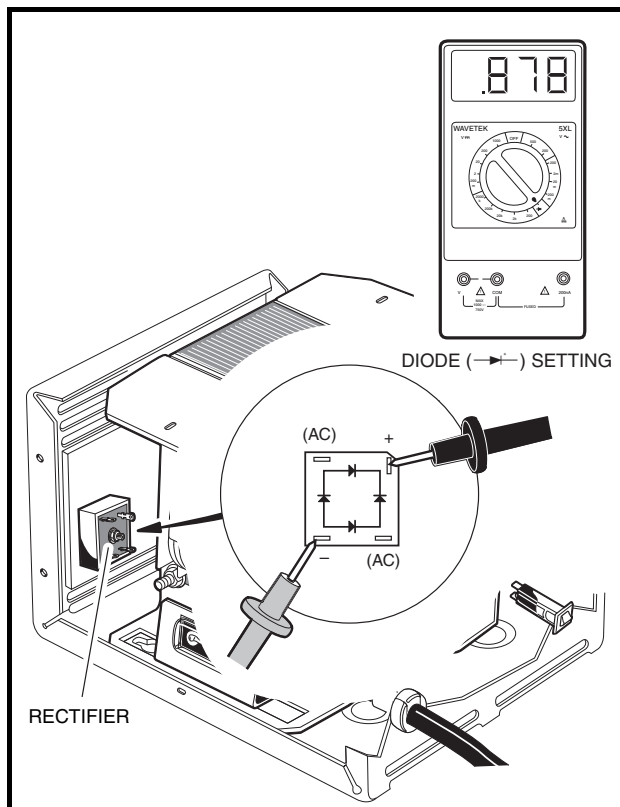

Figure 5-12 Rectifier Test
3. Disconnect all four wires from the rectifier (**Figure 5-12, Page 5-16**).
4. Using a multimeter set to the diode test function ($\rightarrow|$), place the black (–) probe of the multimeter on the positive (+) terminal of the rectifier. Move the positive (+) probe to each of the remaining three rectifier terminals and note the readings (**Figure 5-12, Page 5-16**).